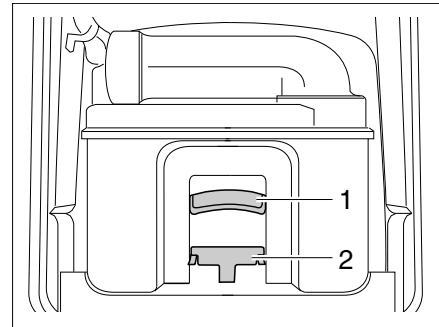

Fig. 365 Thetford cassette
- Pull the retaining clip (Fig. 365,2) forward to unlock the toilet cassette and pull out the cassette at the handle (Fig. 365,1).